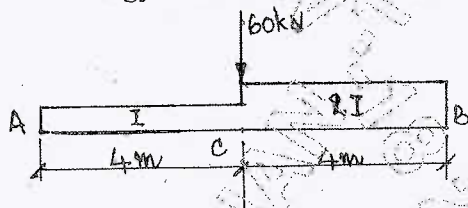

Fig.Q5(b) (08 Marks)
b. Determine the deflection under the given 60 kN load acting on the beam as shown in Fig.Q5(b) by strain energy method.